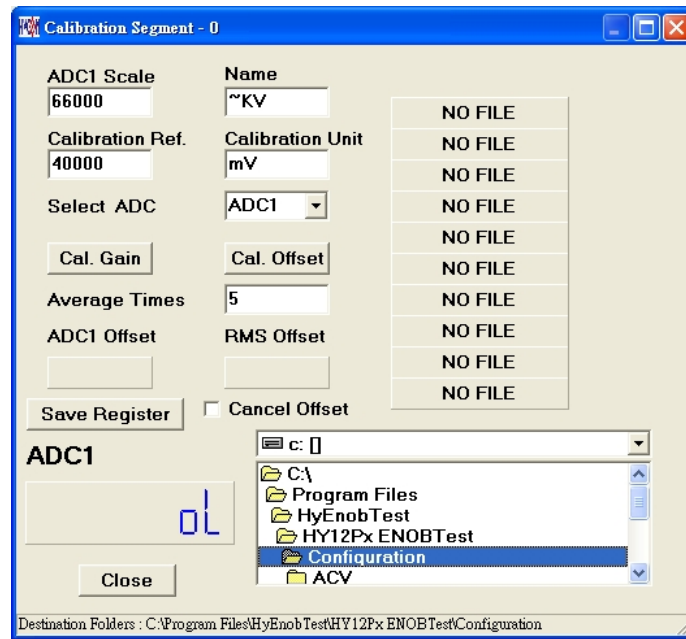

Figure 1- 16
Step 3: Click SETDMMA on the interface, a window as like Figure 1- 16 will pop up.